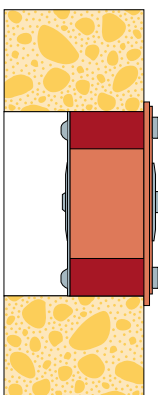

Fig. 10
**RGP** frames are installed on one side of the wall when normal demands are made for fire safety (120 min), see fig. 10. When the safety demands are particularly high two RGP frames are installed back-to-back (fig. 11).